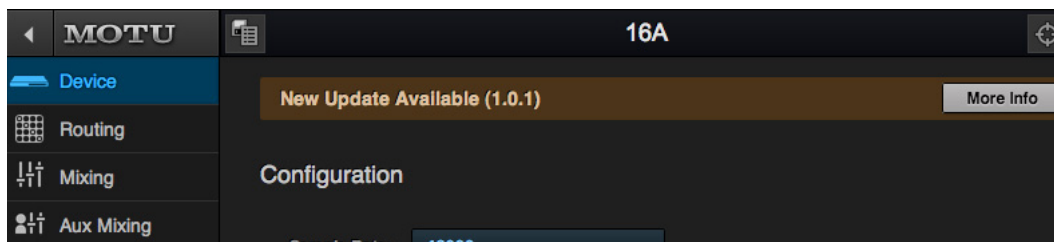

Figure E-1: The firmware update banner appears automatically at the top of the Device tab when your web host has internet access and MOTU posts an update.
- 3** In the *New Update Available* banner (Figure E-1), click *More Info*.